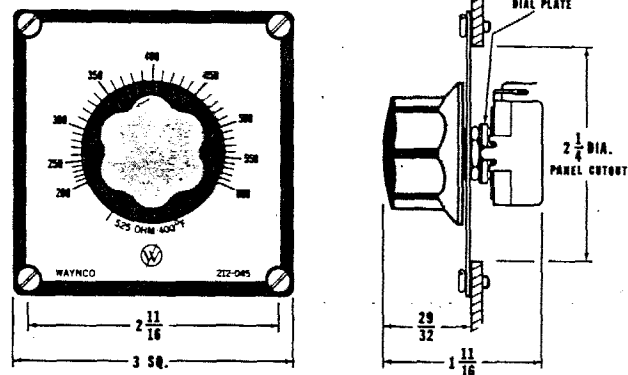

FIGURE 1—Model 006-004 Set Point Potentiometer
- 7) Set Point Potentiometer—Refer to Figure 1.